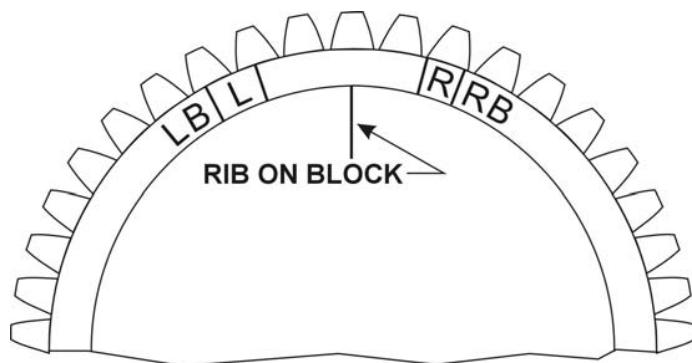

Figure 5-2. Timing Marks – 6 Cylinder – 1200 Series
- (1) Remove a spark plug from No. 1 cylinder and place a thumb over the spark plug hole. Rotate the crankshaft in direction of normal rotation until the compression stroke is reached, which is indicated by a positive pressure inside the cylinder tending to push the thumb off the spark plug hole. Continue rotating the crankshaft until the advance timing mark on the front face of the starter ring gear is in alignment with the small hole located at the two o'clock position on the front face of the starter housing. (Refer to Specification chapter or to engine nameplate for designated number of degrees of spark advance.) At this point, the engine is ready for assembly of the magnetos.
- (2) *Single Magneto* – Remove the inspection plugs from both magnetos and turn the drive shaft in direction of normal rotation until (-20 and -200 series) the first painted chamfered tooth on the distributor gear is aligned in the center of the inspection window (-1200 series) the applicable timing mark on the distributor gear is approximately aligned with the mark on the distributor block. See Figure 5-2. Being sure the gear does not move from this position, install gaskets and magnetos on the engine. Note that an adapter is used with all magnetos. Secure with (clamps on -1200 series) washers and nuts; tighten only finger tight.
- (3) Using a battery-powered timing light, attach the positive lead to a suitable terminal connected to the switch terminal of the magneto and the negative lead to any unpainted portion of the engine. Rotate the magneto in its mounting flange to a point where the light comes on, then slowly turn it in the opposite direction until the light goes out. Bring the magneto back slowly until the light just comes on. Repeat this with the second magneto.
- (4) Back off the crankshaft a few degrees; the timing light should go out. Bring the crankshaft slowly back in direction of normal rotation until the timing mark and the hole in the starter housing are in alignment. At this point, both lights should go on simultaneously. Tighten nuts to specified torque.
- (5) *Dual Magnetos* – Place the engine in the No. 1 advance firing position as directed in paragraph 1b(1).
- (6) Install the magneto-to-engine gasket on the mounting flange.